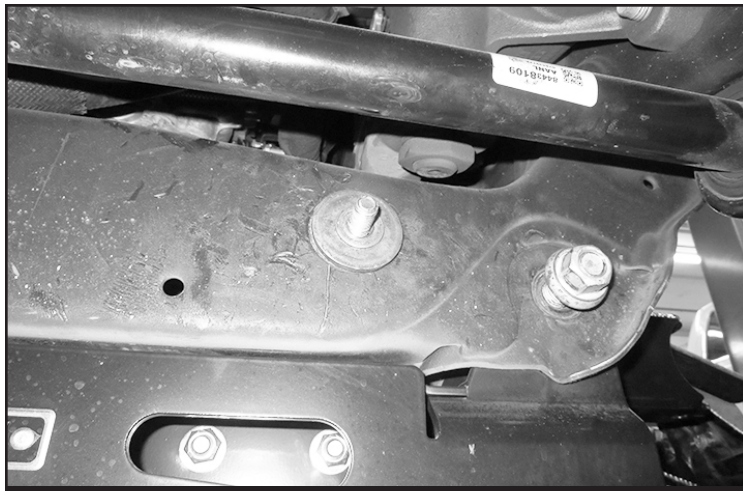

FIGURE 6 - STEP 4
4. Insert FT624 (Sleeve) into the existing hole in the front crossmember then install the supplied 1/2" x 5-1/4" bolt and washer from the backside. **SEE FIGURES 4-5.** Install FT83159 (Large OD washer), standard washer and nut on the front side. Torque the 1/2" hardware to 106 ft-lbs. and the crossmember to frame hardware to 174 ft-lbs. **SEE FIGURE 6**